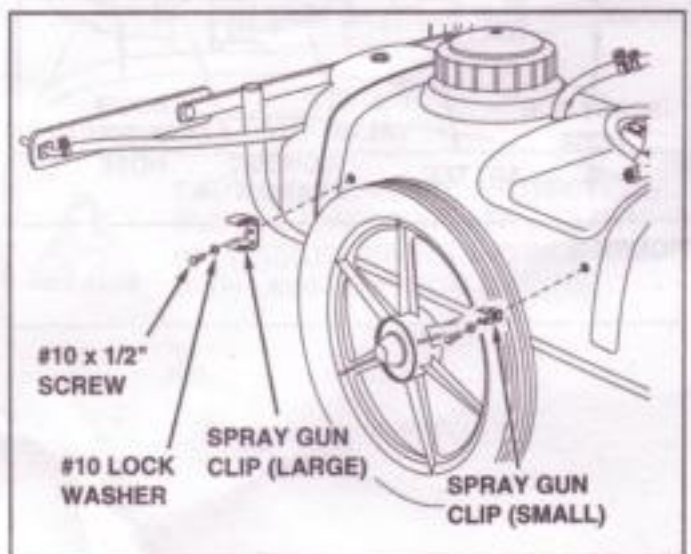

FIGURE 7
- Assemble the large and small spray gun clips to the side of the tank using two #10 x 1/2" screws and #10 lock washers. See figure 7.
16. Wrap the hose around the top of tank and snap the spray gun into the clips on the front of the tank. (The large clip holds the spray gun handle and the small clip holds the wand.) Refer to figure 7.